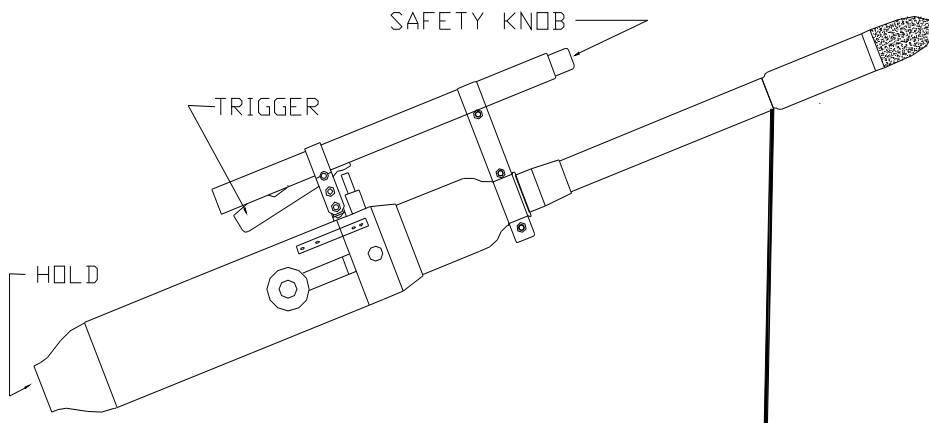

Fig 2
4. Insert the line in to the line track along the projectile. Insert the projectile all the way down in to the launching tube (fig 2).
6. Aim over the target with an angle of approx. 27°. Make sure that the PLT[®] is well supported with a Pivot Support or by using the rear end of the PLT[®] as a hold (fig 2).